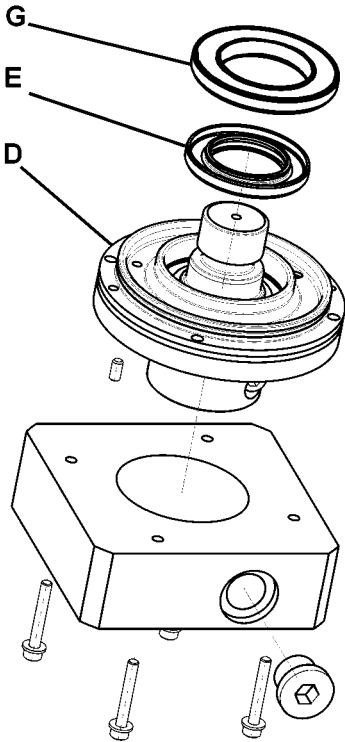

Fig. 8.3
- ➔ Make an assembly unit (G) that corresponds to Fig. 8.3.